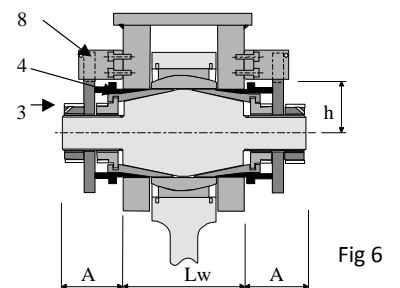

Fig 6
- 6.2 Tighten alternately on both sides to avoid the bolt (6) moving sideways. The bolt is now locked to the outer section (see Fig.6).